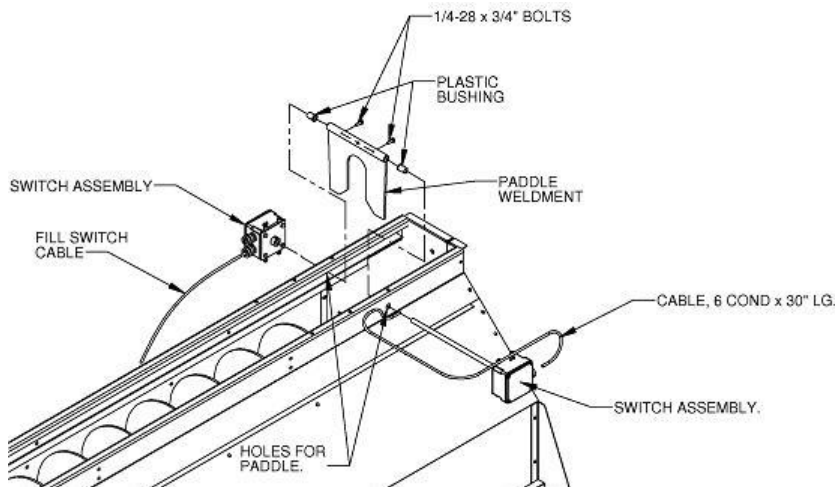

Fig. 2-14 – Paddle switch installation
3. Attach fill auger paddle switch assembly. Locate holes for paddle switch in wet bin on end opposite of filling end. See Fig. 2-14.
4. Slide a plastic bushing on each side of wet bin from inside out. Slide shaft with tilt switch box through bushing on one side of wet bin. Position paddle weldment inside of wet bin and slide shaft through pipe of paddle weldment. Slide shaft through bushing on other side of wet bin. Tighten setscrews of paddle weldment onto shaft, making sure paddle and box on shaft are square and paddle can pivot freely. See Fig. 2-14.